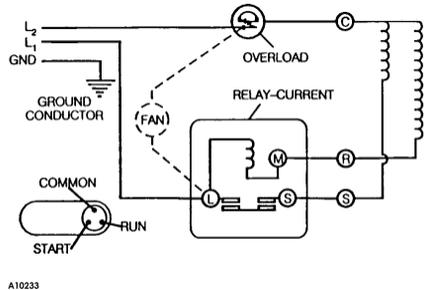
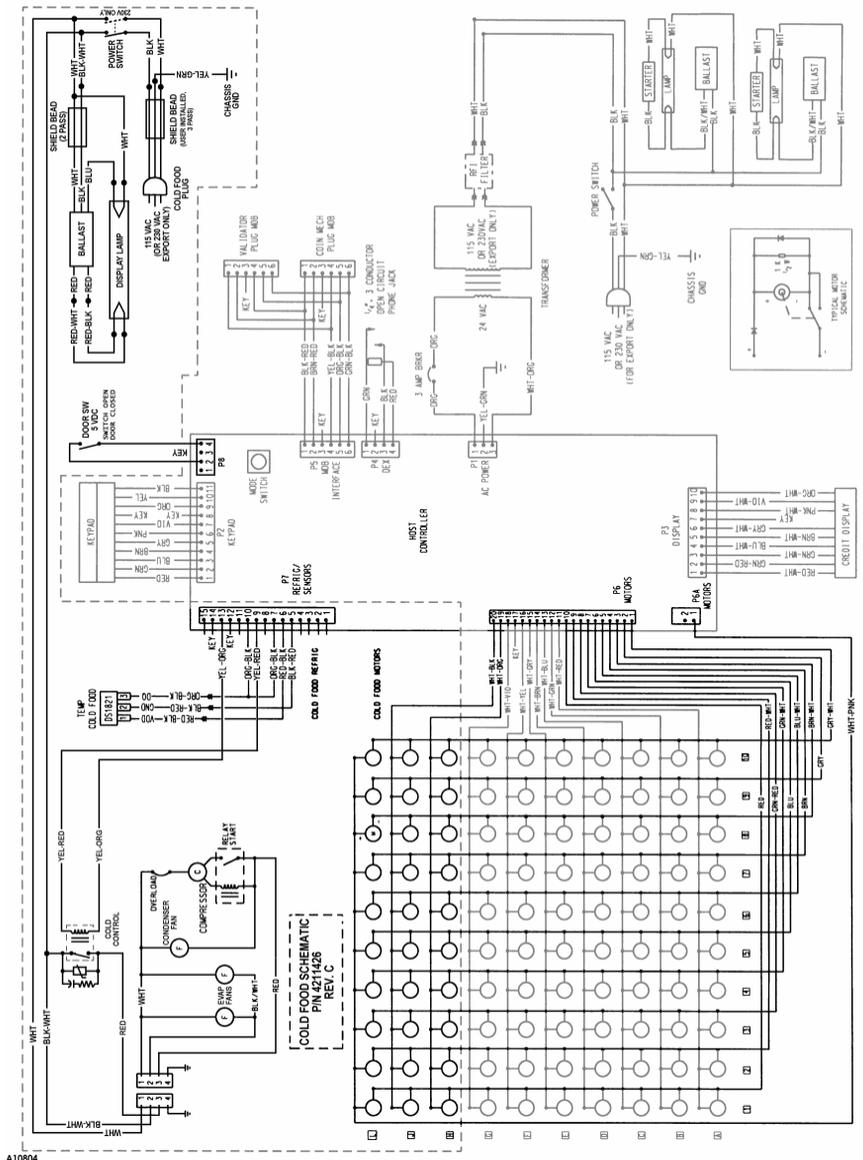

Figure 7.1. Compressor Schematic
Figure 13.1. Cold Food Schematic
- Bad windings (See **Figure 7.1** and **Figure 13.1** schematics on pages 23 and 29 respectively.)
See **Figure 7.1** (page 23) and **Figure 13.1** (page 29) for schematics and wiring diagrams.
- Check relay (See **Figure 7.1**). Unscrew lead terminals and remove relay from compressor. (NOTE: keep relay upright).
- Check compressor windings as shown in **Figure 7.1** and **Figure 13.1** schematics (pages 23 and 29).